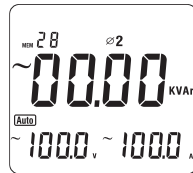

Figure 19
- Then press **SELECT** again to choose the second phase $\varnothing 2$, see figure 19.